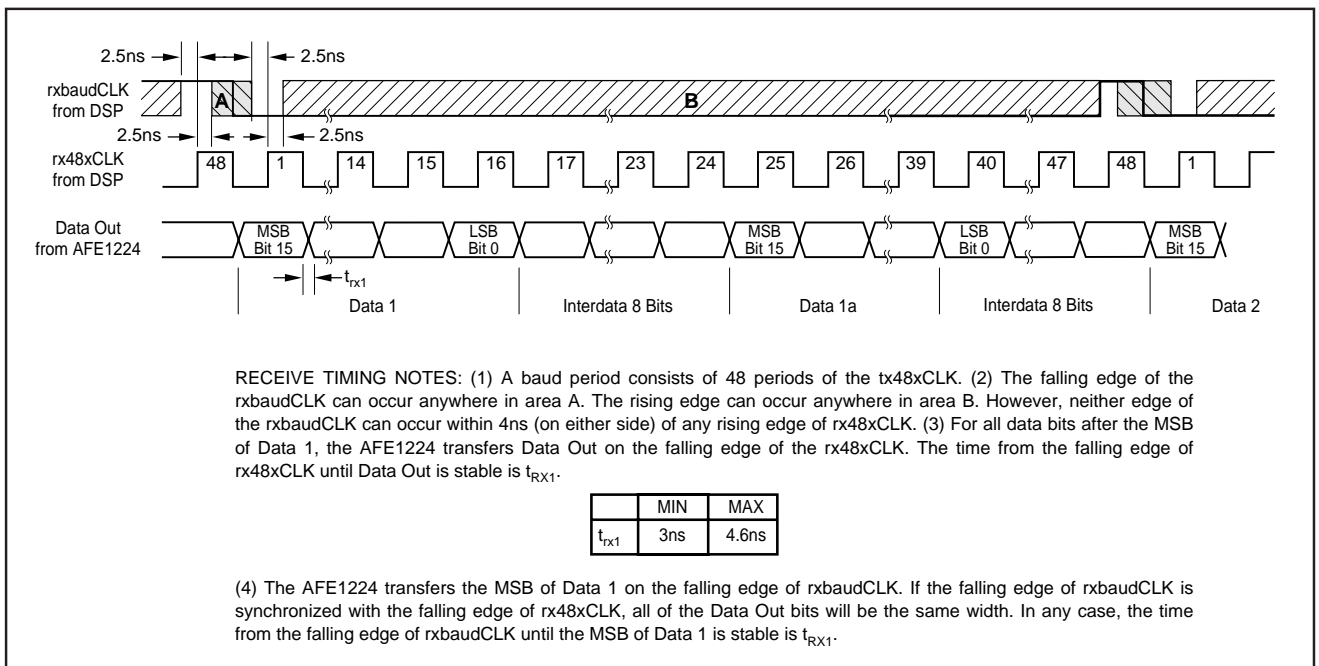

FIGURE 4. Receive Timing Diagram.
**Data Out:** This is the 14-bit A/D converter output data (+ 2 spare bits) sent from the AFE to the DSP. The 14 bits from the A/D Converter will be the upper bits of the 16-bit word (bits 15-2). The spare bits (1 and 0) will be always be LOW. Eight additional bits follow which are always HIGH. The data is clocked on the falling edge and valid at the rising edge of the rx48xCLK. The bandwidth of the A/D converter decimation filter is equal to one-half of the symbol rate. The nominal output rate of the A/D converter is one conversion per symbol period. For more flexible post-processing, there is a second true A/D conversion available in each symbol period. In Figure 4, the first conversion is shown as Data 1 and the second conversion is shown as Data 1a. It is recommended that rxbaudCLK be used with the rx48xCLK to read Data 1 while Data 1a is ignored. However, either data output may be used and both outputs may be used for more flexible post-processing.